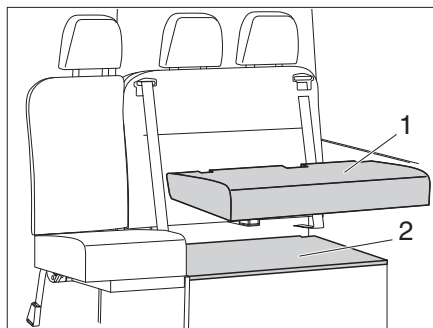

Fig. 46 Seat cushion installation
- Insert the chest cover (Fig. 46,2) and place the seat cushion (Fig. 46,1).